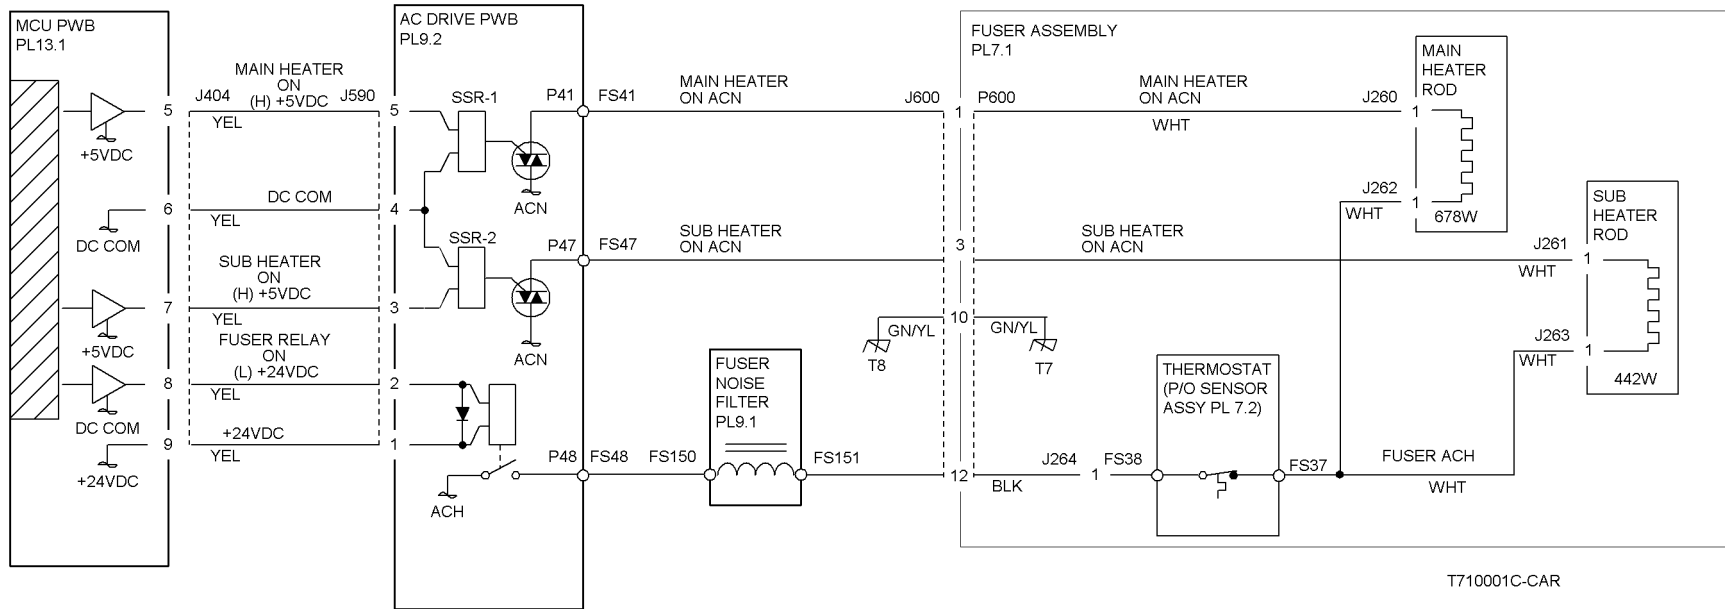

Figure 2 10-350 RAP Circuit Diagram - Main Heater and Sub Heater
**+2 - 3.5VDC is measured at P/J404-7 on the MCU PWB (Figure 2).**